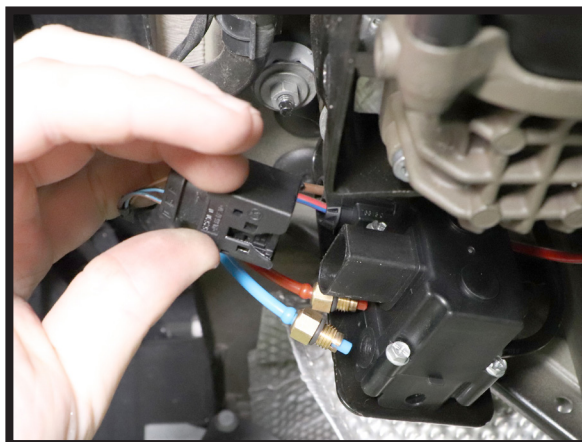

FIGURE 5
5. DISCONNECT THE ELECTRICAL CONNECTION. (FIGURE 5)